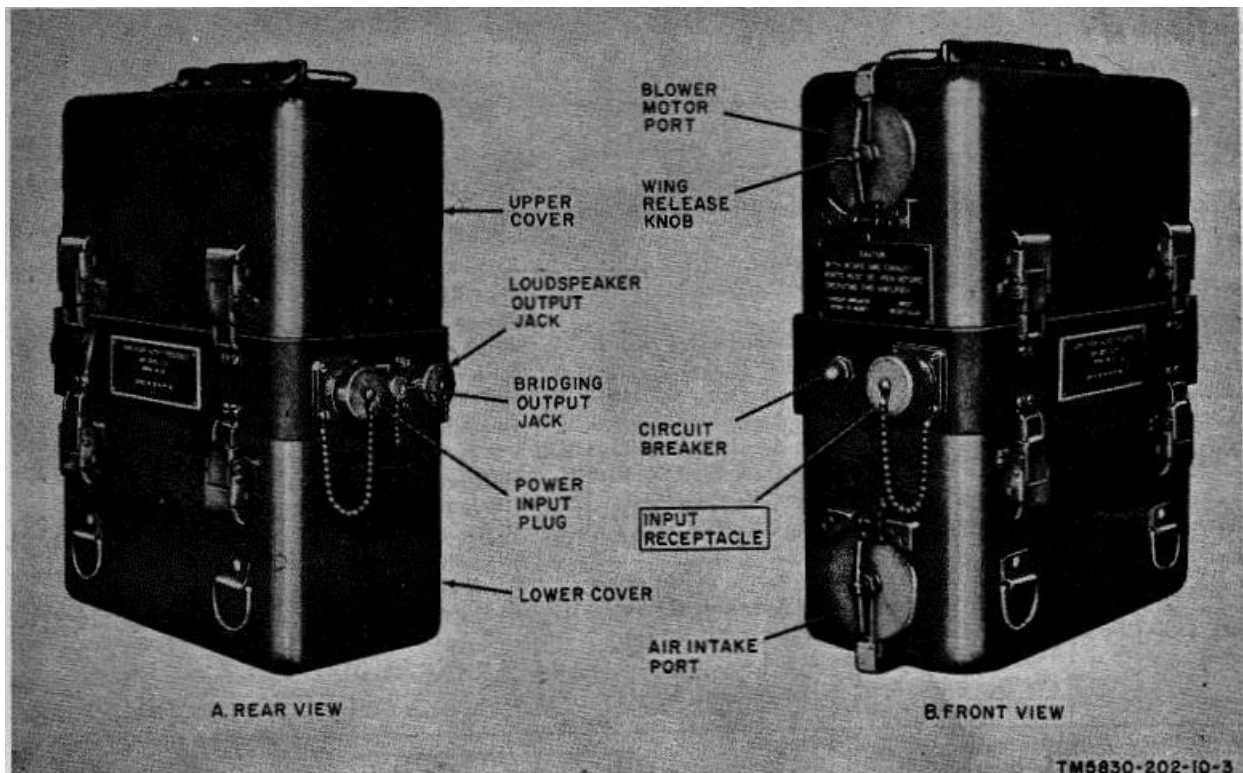

Figure 3. Audio Frequency Amplifier AM-1830/UIH.
*a. Audio Amplifier (fig. 3).*
- (1) The audio amplifier operates from a 28-volt direct current (dc) power source.
c. *Audio Amplifier* (fig. 3). The circuit breaker is depressed to reconnect the audio amplifier to the power source after the circuit breaker has been opened by a temporary overload.
- a. Open the blower motor port (fig. 3) of the audio amplifier by twisting the wing release knob counterclockwise. The blower motor port is spring-loaded and will remain open when unlocked.
- (1) Set the AMPLIFIER switch to the OFF position.
- a.* Remove any foreign matter from the screen over the blower motor port (fig. 3).